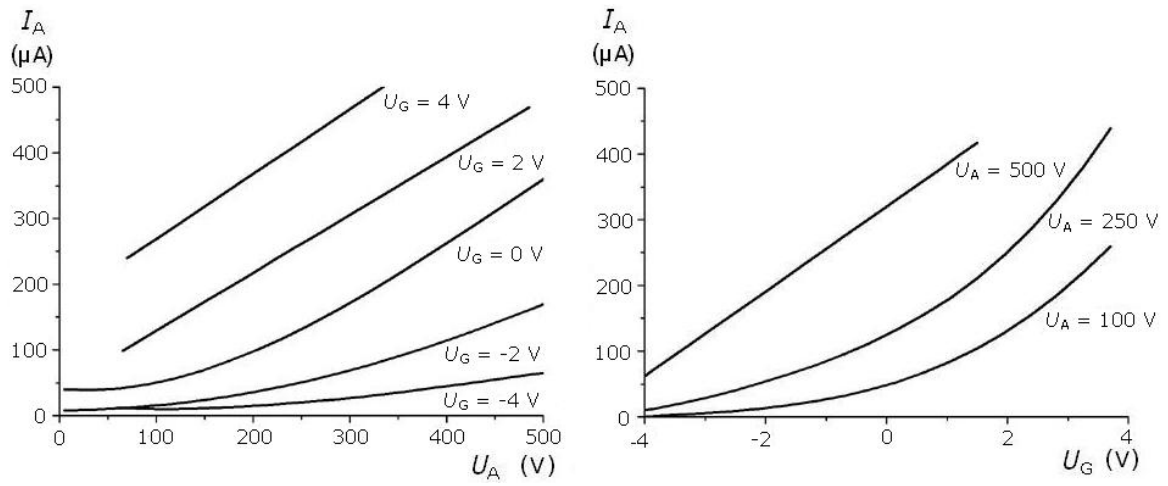

Fig. 2 Triode characteristics
- $I_A - U_A$  characteristics: for constant grid voltages, determine the anode current as a function of the anode voltage and plot the values in a graph (refer to Fig. 2).
- $I_A - U_G$  characteristics: for constant anode voltages, determine the anode current as a function of the grid voltage and plot the values in a graph (refer to Fig. 2).